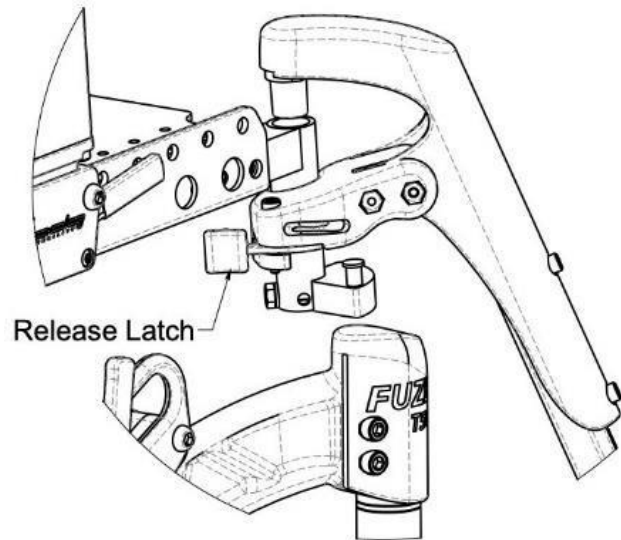

Fig. 1: Swing-Away Front Rigging Latch Installation and Removal Rigging.
1. Orient the footrest at approximately 45° outboard of the wheelchair as shown in Figure 1.
2. To release the locking mechanism, push the release lever as show in Figure 1.